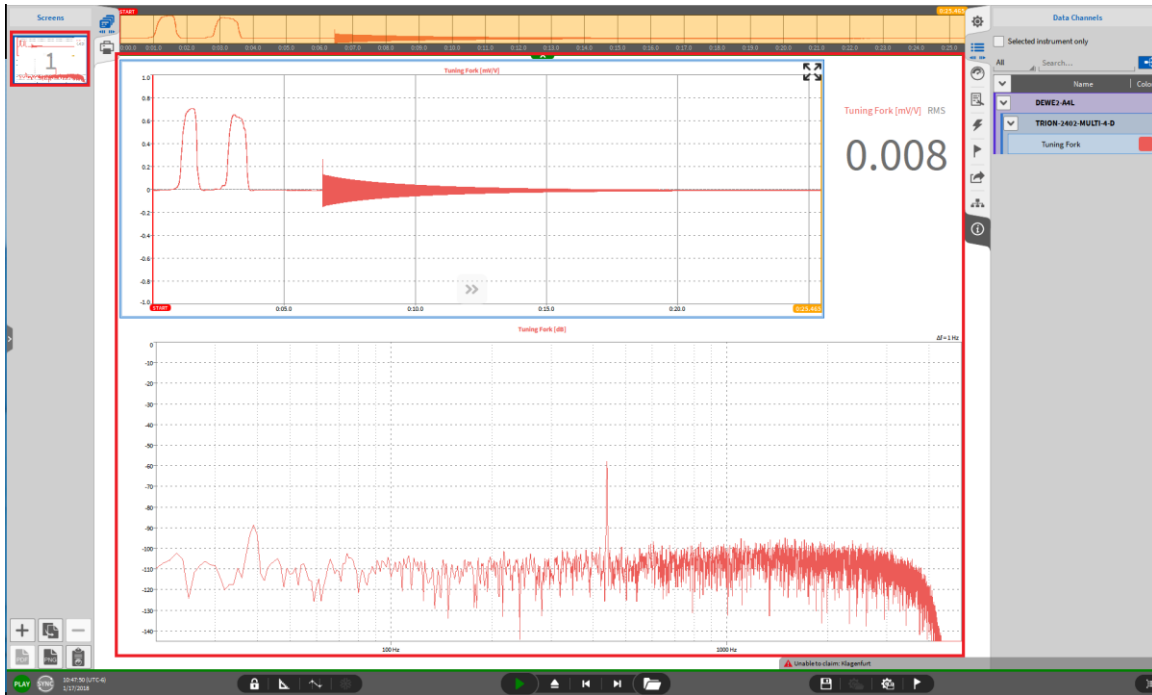

Figure 11-2: Display the measurement screen that shall be copied to the report
- Select the desired measurement screen within the screens menu and display it (see Figure 11-2)